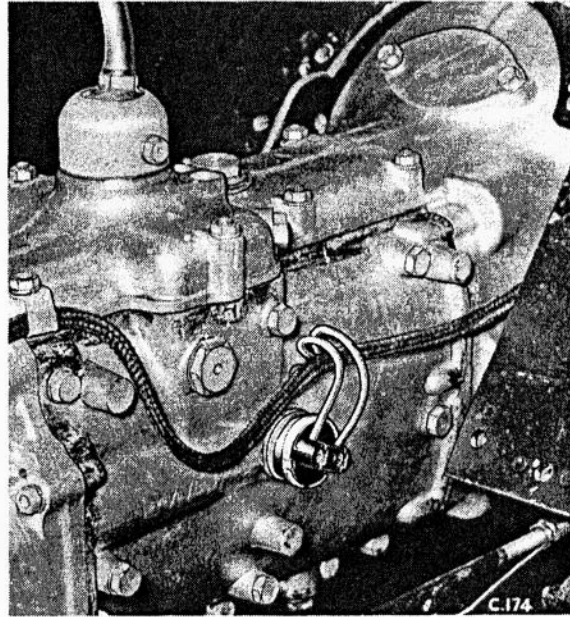

Fig.7 Reverse light switch wiring.
6. Connect the speedometer flexible drive to the gearbox extension and the wiring to the reverse light switch, see Fig.7.